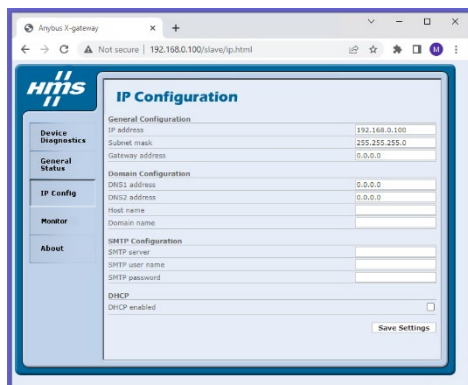

Figure 7
3. The address may be set using the webpage that is internal to the gateway as shown in Figure 7.